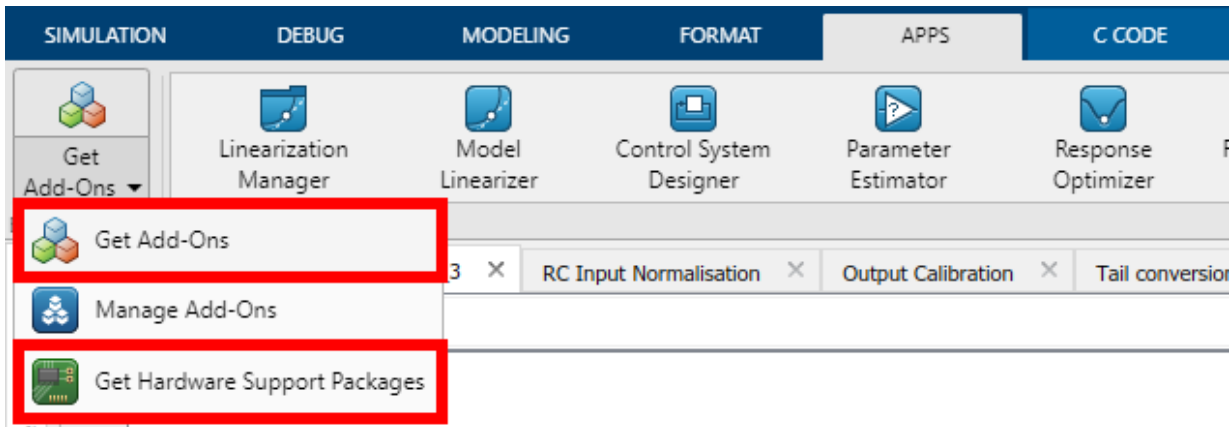
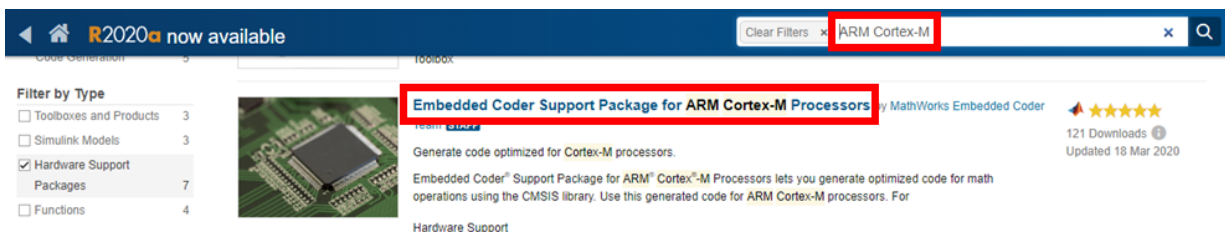

Figure 21: Simulink Add-Ons and Hardware Support Packages.
Figure 22: ARM Cortex-M Add-On.
stalled. Inside the Simulink integrated development environment (IDE), the installation menu can be found by clicking `Get Add-Ons` as shown in Fig. 21.
2. **Installing required Hardware Support Packages:** As already described in Fig. 12, the used microcontroller is an STM32. Mathworks provides hardware packages that support C++ code generation for STM32 microcontrollers. By clicking `Get Hardware Support Packages` as shown in Fig. 21, the Simulink hardware support menu will be opened. There, the support package `Embedded Coder Support Package for ARM Cortex-M Processors` can be found and needs to be installed (see Fig. 22).